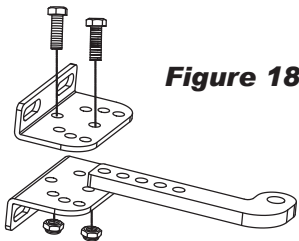

Figure 18
4. In order to obtain the optimal supporting from the rear plate, please assemble two post brackets and one rear metal plate according to **Figure 18**.